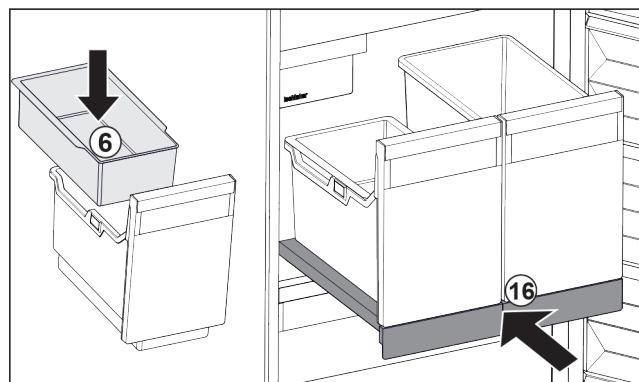

Fig. 130
- ▶ Insert hang-on tray Fig. 130 (6) for ice cubes.
- ▶ Slide in the pull-out board with (IceTower) container. Fig. 130 (16)